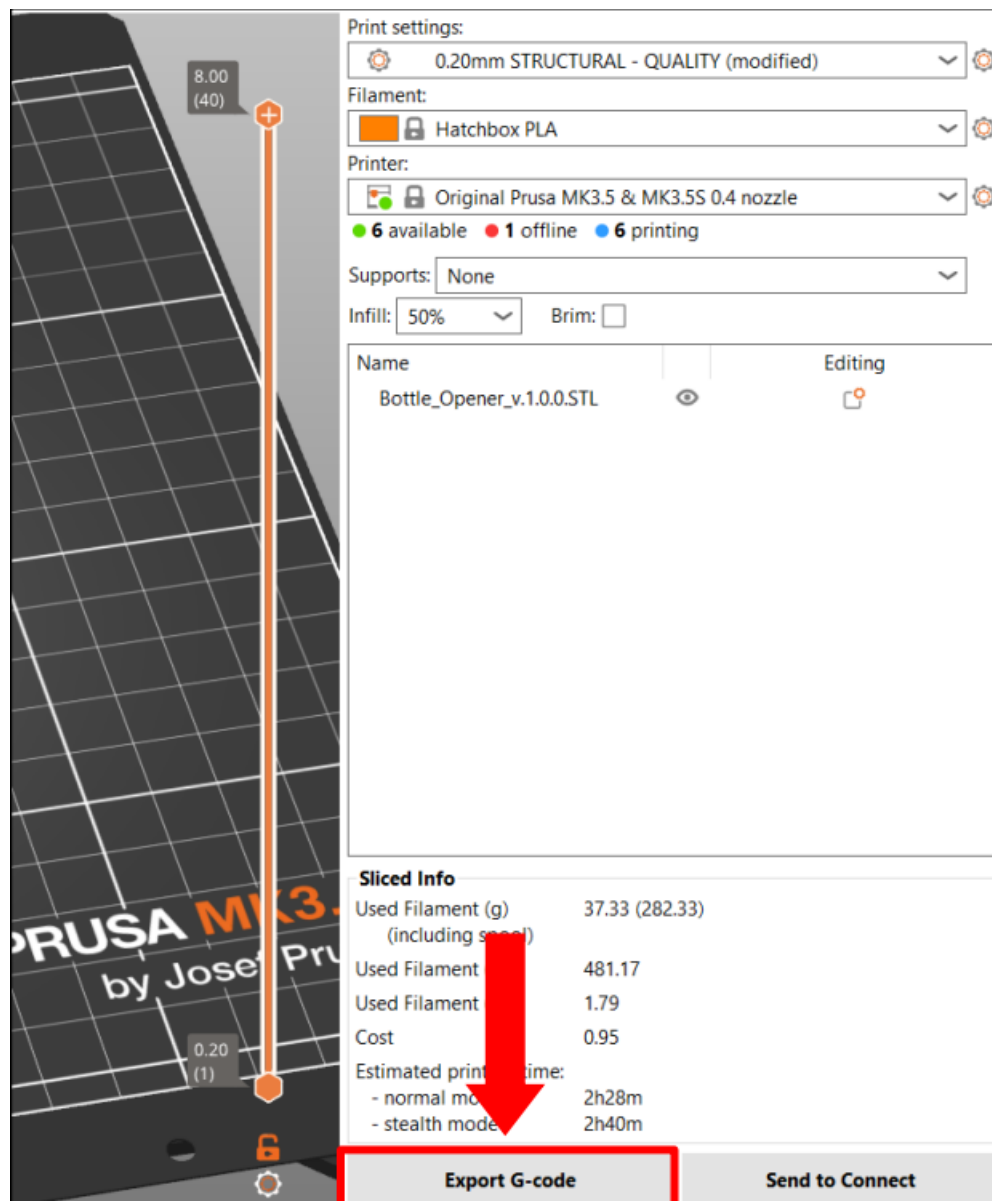

Figure 5. Export G-code Button.
- 10.) Once the slicing is finished, click “Export G-code” (see Figure 5) and save the G-code to a flash drive.